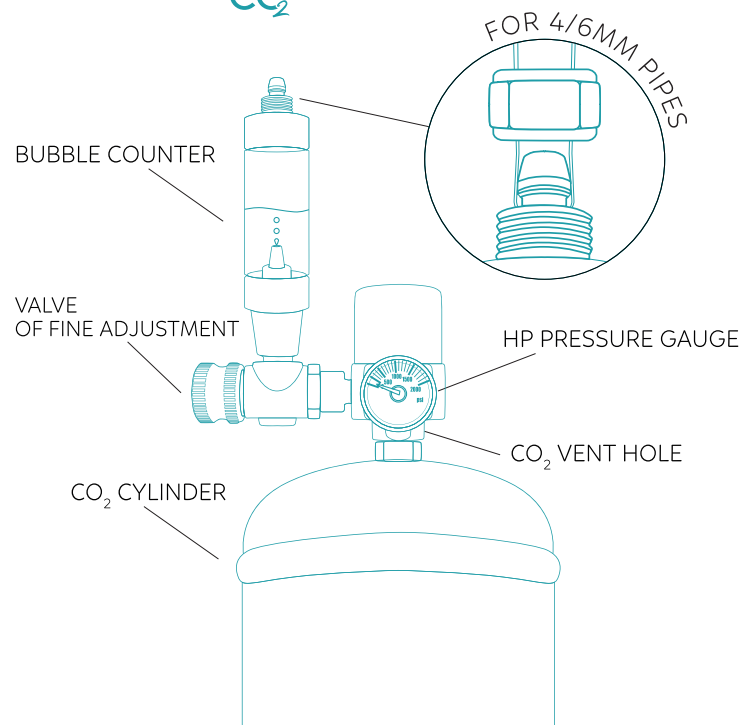

FIG.1
- Connect the hose to the bubble counter and diffuser provided. (see fig. 1)